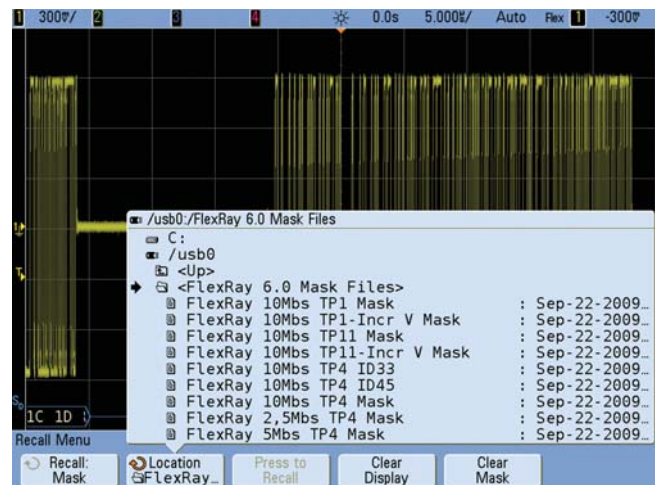

Figure 5. Recalling a FlexRay eye-diagram mask test file.
5. Press the **Location** softkey key, and then select the specific mask file to recall from the "/usb0" drive using the selection knob (shown in Figure 5).